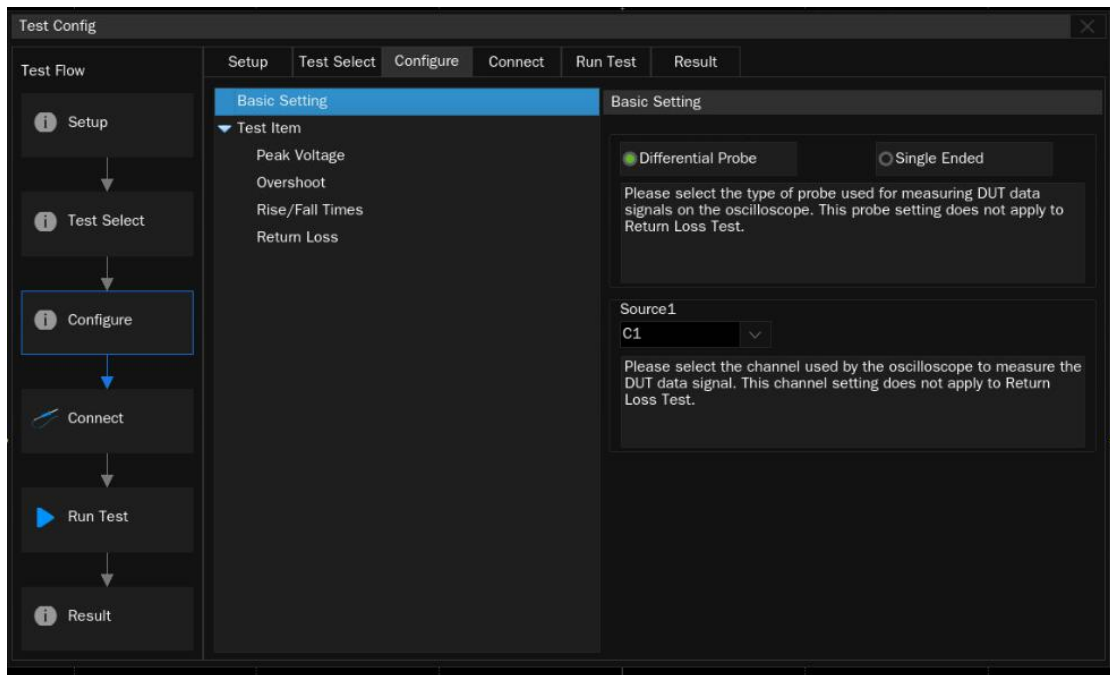
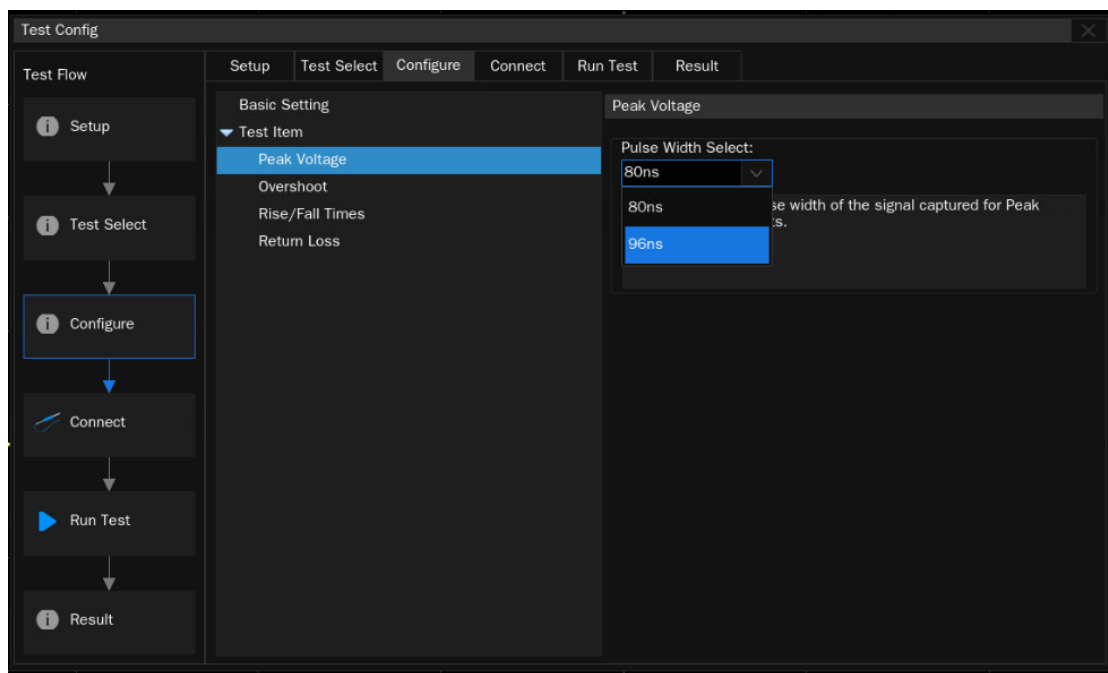

Figure 4-4 Configuration Window
Figure 4-5 Pulse Width of the DUT
- **Configure:** The test items selected in **Test Select** will be highlighted in this column, and you can click the corresponding items to configure. You can set the input channels and probe type, as shown in Figure 4-4. And the pulse width has two options, which are 80ns and 96ns, as shown in Figure 4-5.